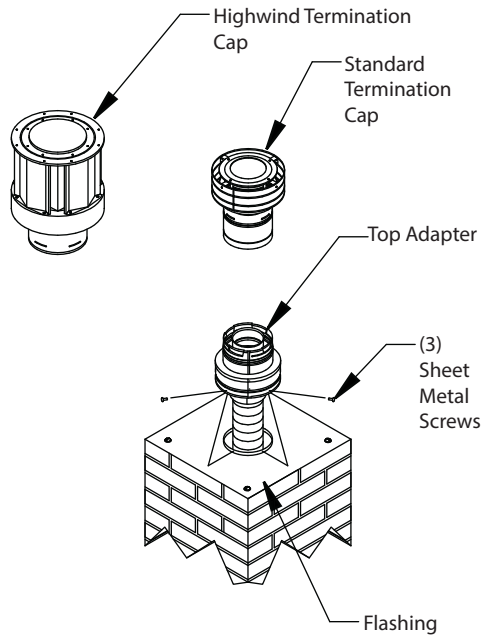

Figure 8
Step 7. Secure the Top Adapter to the Flashing. Use (3) sheet metal screws through the side of the adapter into the flange on the Flashing, as shown in **Figure 8**. Twist lock the Termination Cap (980 or 991) on to the Top Adapter.